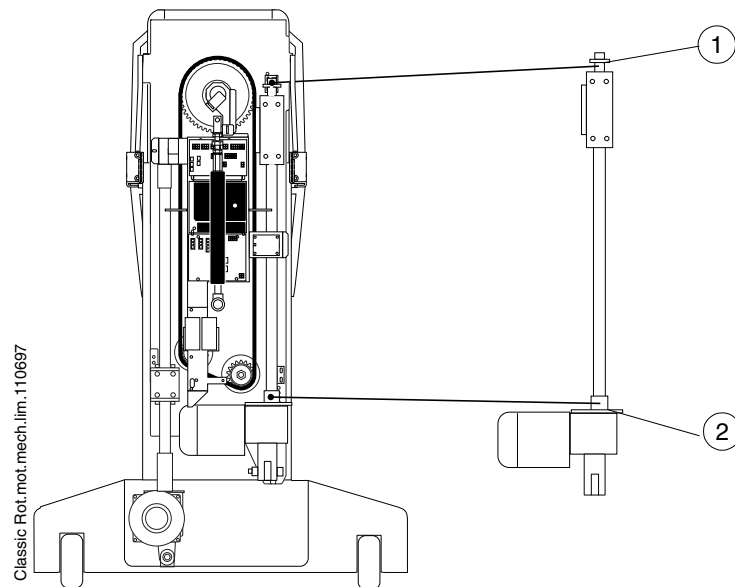

Figure F.29
- b) Check that the Rotation mechanical limits (Fig. F.29, 1,2) are in their positions.